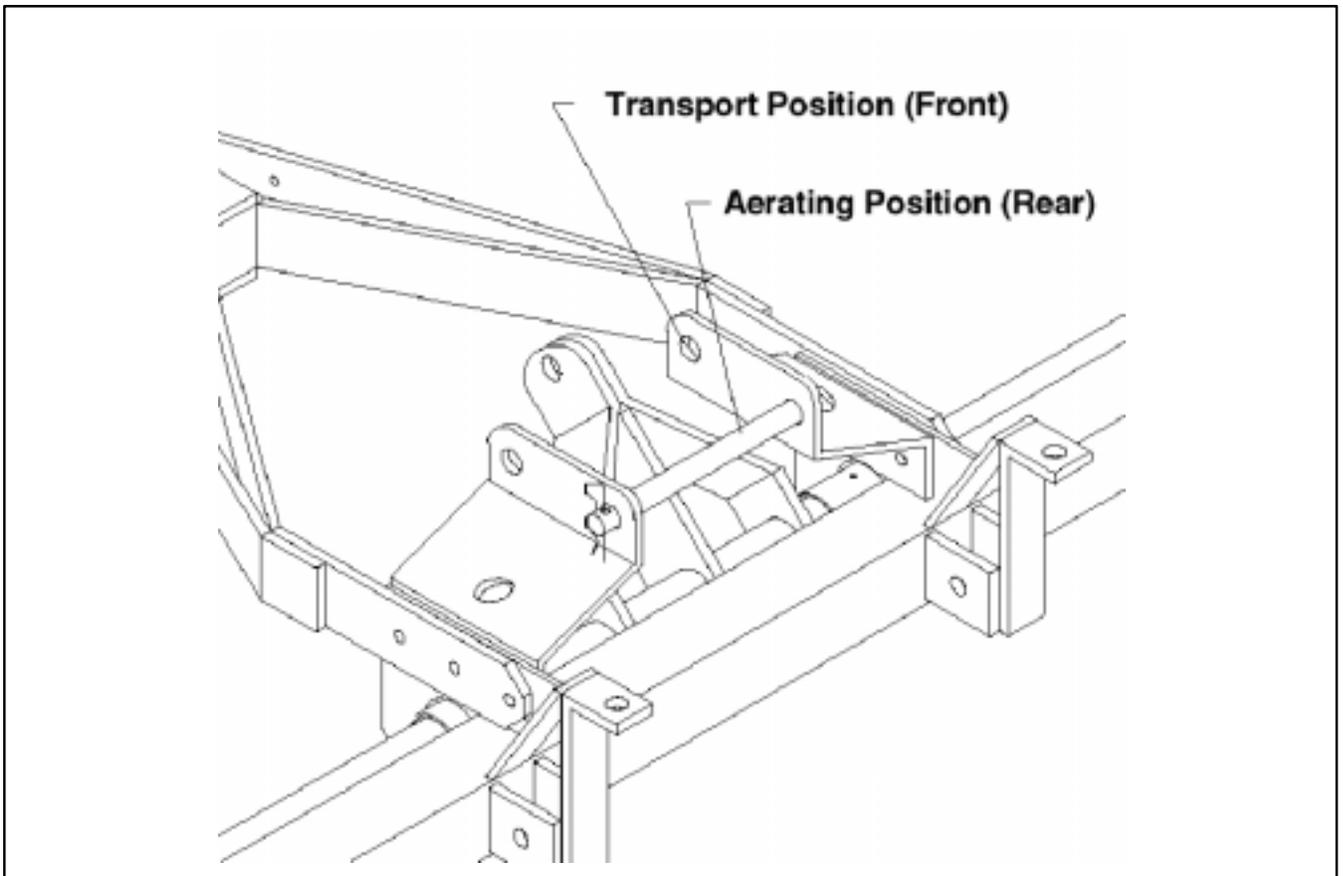

Figure 2
1. Move the lock pin to the rear (aerating) position. See Fig. 2.
dropping in case of accidental release of oil in the lift cylinder. See Fig. 2.